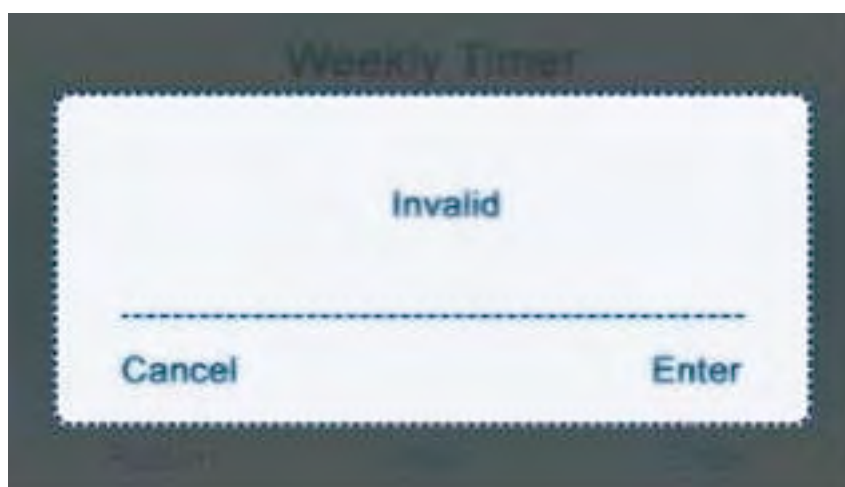

Figure 5
5. Timing switch on/off conflict prompt: if the timing has been set in such a way that timing on/off setting conflicts occur at the same time on the same day, those shown in Figure 5 will pop out.